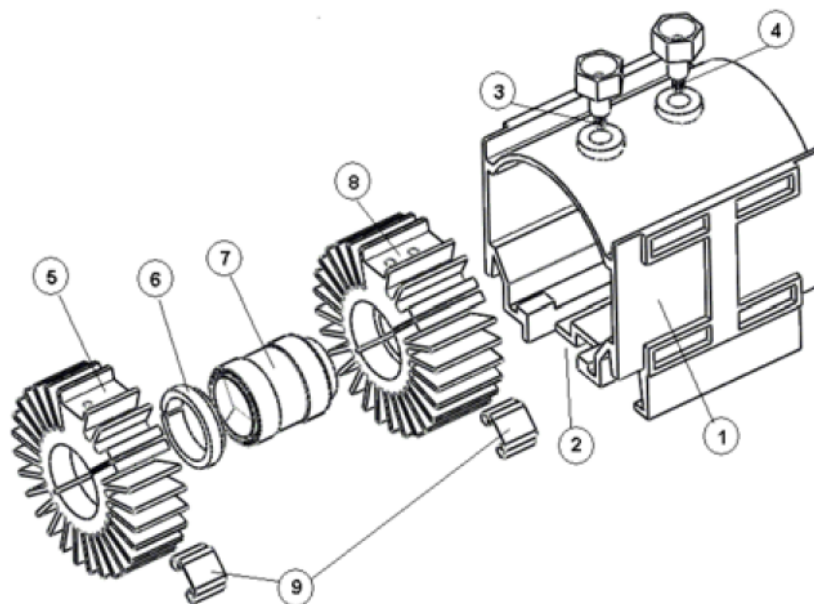

Figure 1. Bulb assembly components.
| Figure 1. Bulb assembly components.....   | 1  |
1. Remove both terminals (see Figure 1) from the blue housing.
5. The mounting ring (see Figure 1) might still be inside the front heat sink. Remove it and set it aside. You will need it if the new bulb does not have one.